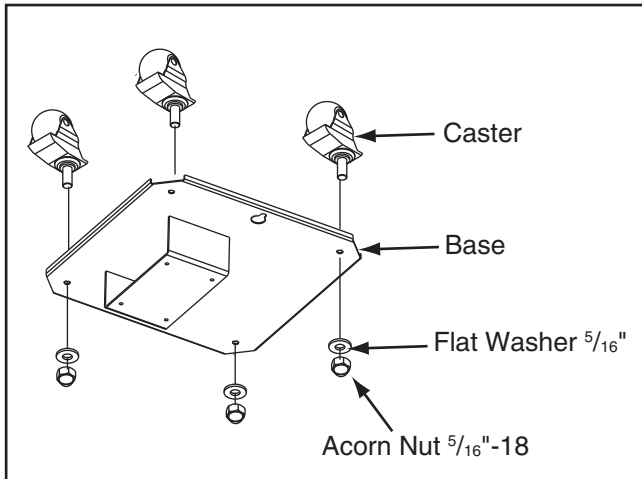

Figure 8. Mounting the casters.
1. Position the base plate upside down and mount the casters using the (4) $\frac{5}{16}$ " flat washers and acorn nuts, as shown in **Figure 8**.